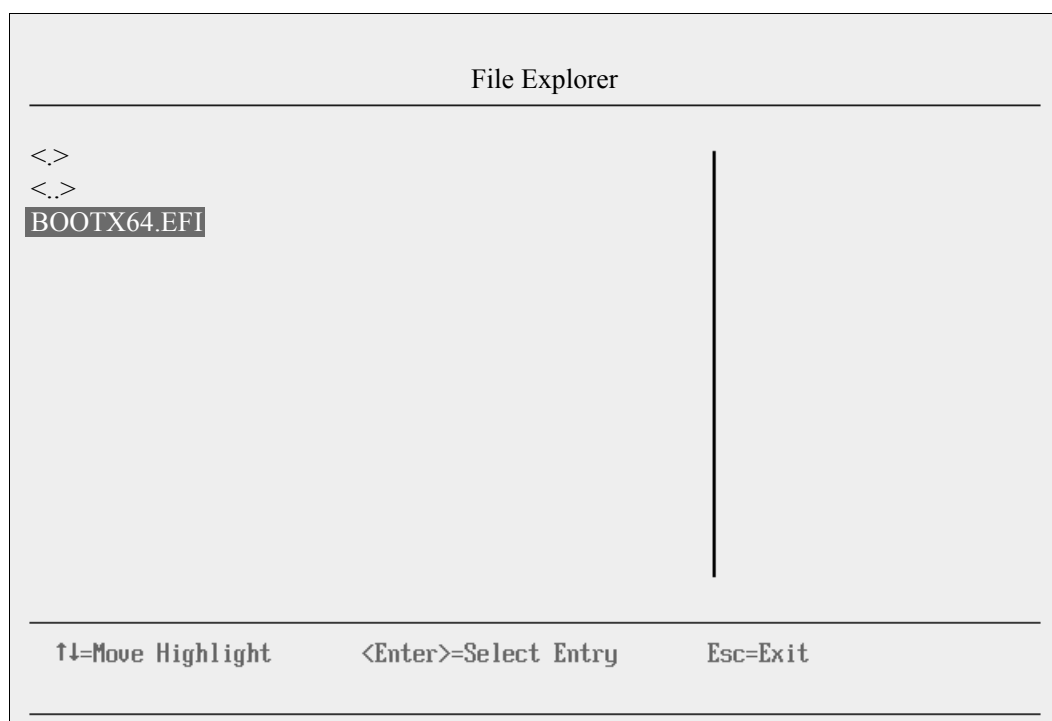

Figure 9-35 Selecting the *BOOTX64.EFI* file
- Now that you are browsing the DVD, select **EFI**, select **BOOT**, and then select **BOOTX64.EFI** (Figure 9-35). This file name might be different if you are booting other versions of Windows, VMware, or Linux.